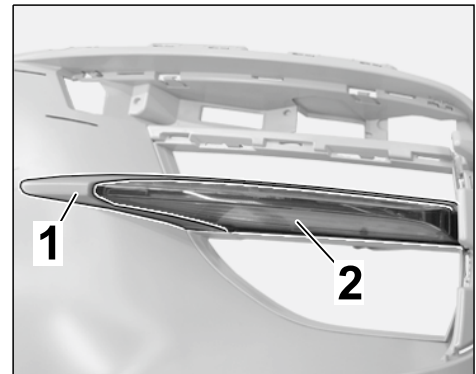

Figure 11
- 2.7.2 Fit new vane (left/right) into the respective air grille (⇒ *Figure 11*).